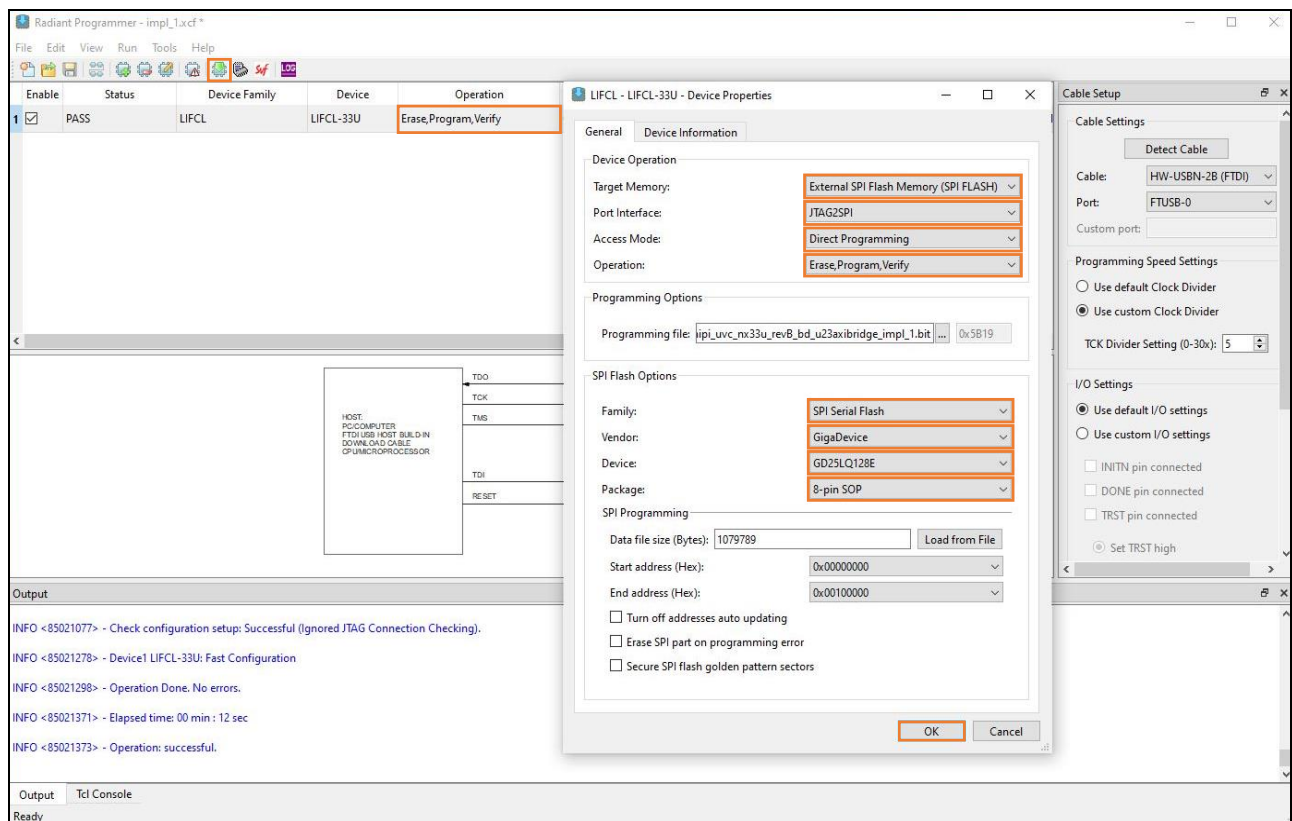

Figure 8.1. Radiant Programmer GUI
1. Launch the Radiant Programmer. Navigate to the **Edit > Device Properties...** menu item or click the **Operation** area to bring up the **Device Properties** window, as shown in Figure 8.1.
3. Select the bitstream file from the bit files folder and choose the **SPI Flash Options** shown in Figure 8.1.